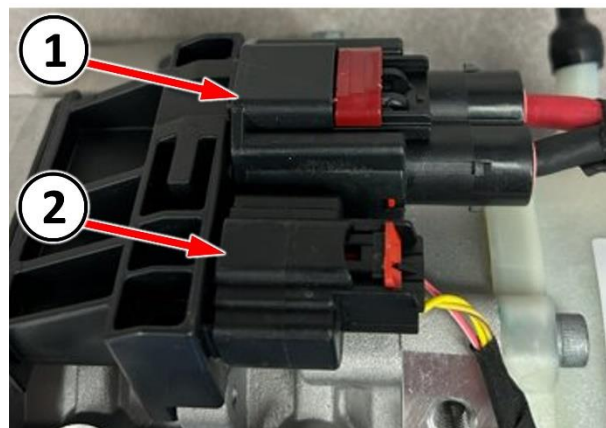

Figure A7 – Electrical Connectors
22. Disconnect the electrical connectors from the EHPS pump if not already done so, by sliding red CPA back and de-pressing connector latch (Figure A7).